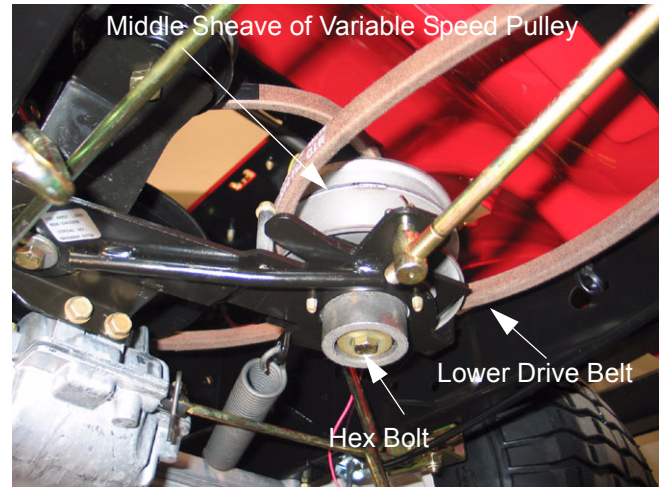

Figure 38
- 9.6. Raise the middle sheave of the variable speed pulley to allow raising the lower drive belt around the belt guard. See Figure 38.